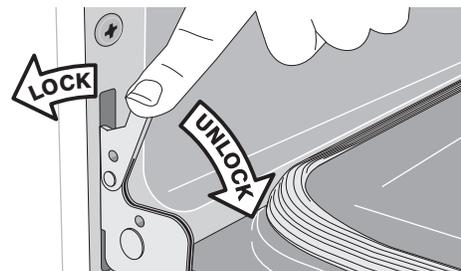

Figure 33: Door hinge locks
1. Open oven door completely, horizontal with floor (See Figure 33).
3. Fully open the oven door, horizontal with floor (See Figure 33).